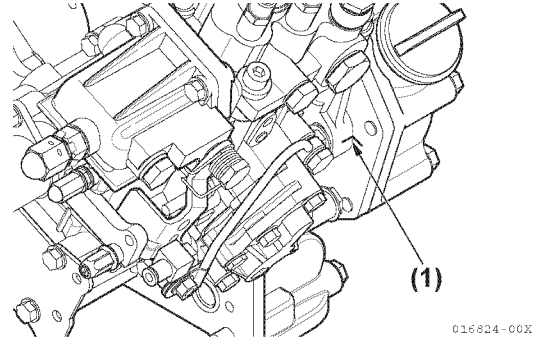

Figure 6-69
- Align the reference marks (Figure 6-69, (1)) previously made on both the fuel injection pump mounting flange and gear case or front plate.